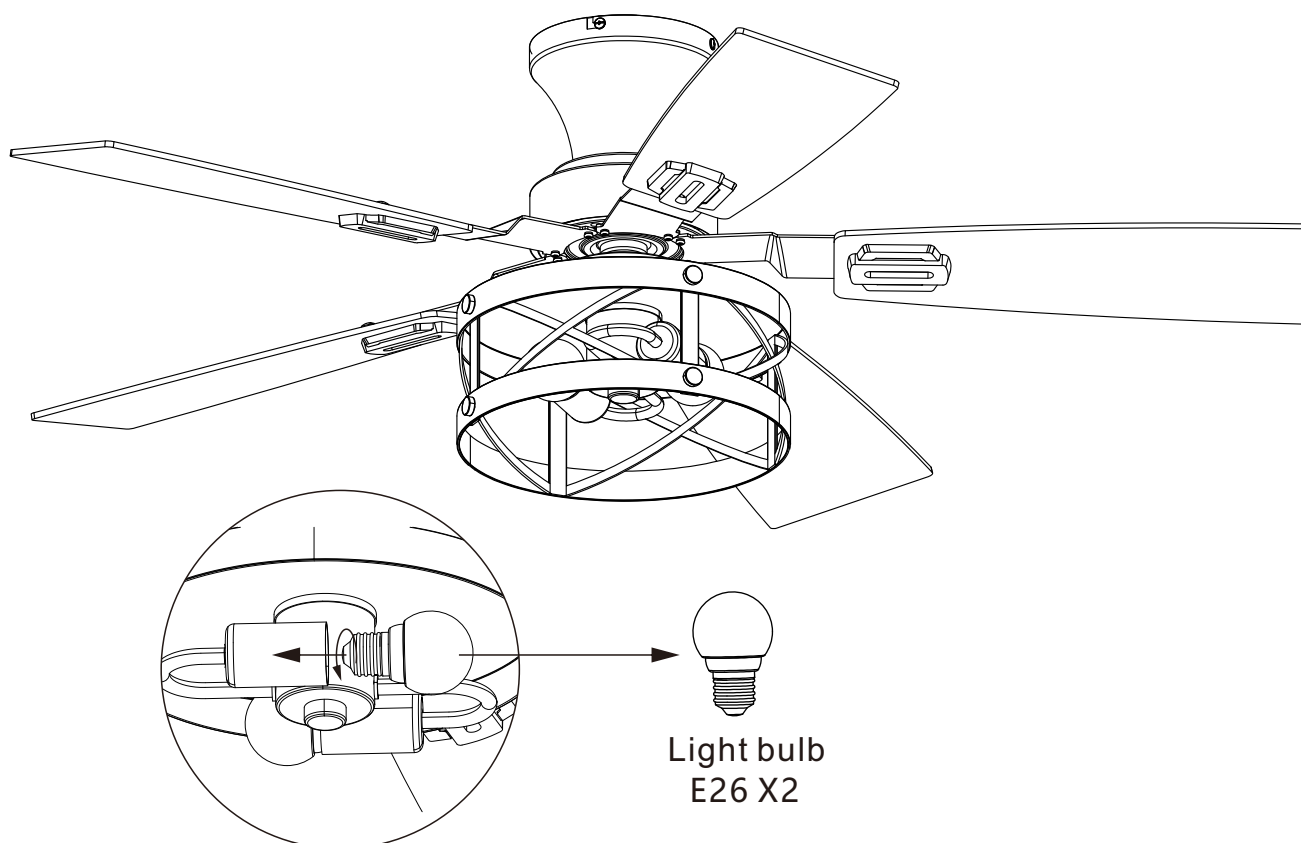

Figure 14
Step 9. Screw the bulb into the socket following the thread direction; ensure it is fully seated to prevent it from falling. (Fig.14)